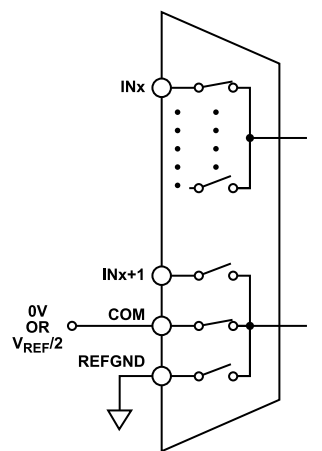

Figure 70. INx Paired with COM
- ▶ Figure 70, IN0 to IN15 paired with COM